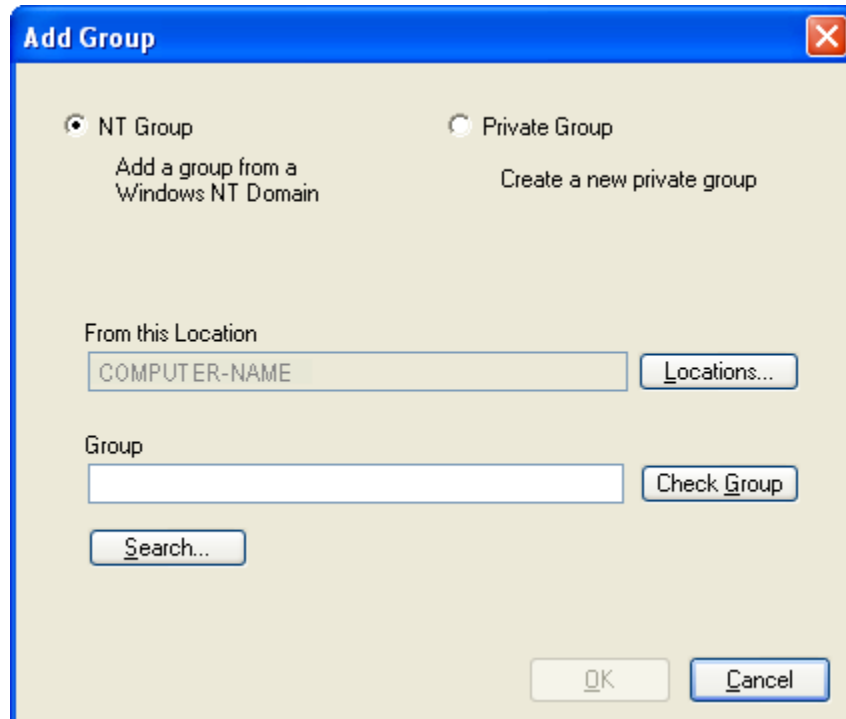

Figure 68 - Add Group Window (NT)
2. The **Add Group** window (Figure 68) appears. The **NT Group** option button is selected by default. This will allow the addition of an NT group from a Windows NT Domain.
2. The **Add Group** window (Figure 68) appears.